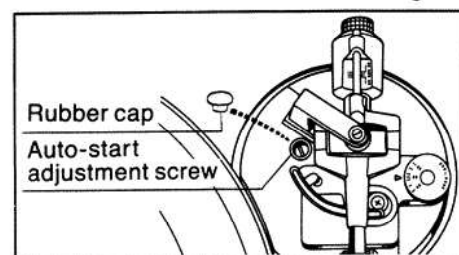

Fig. 18
2. Remove the rubber cap. (Fig. 18)